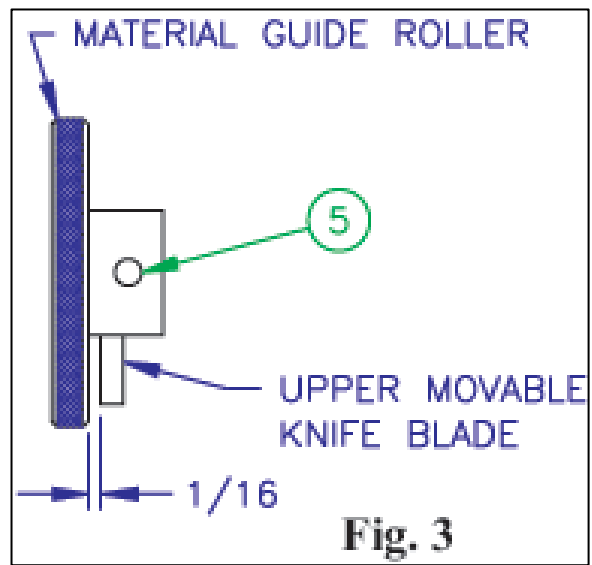

Fig. 3
3. The material guide roller should be adjusted along the drive shaft to leave 1/16" clearance between the roller and the upper movable knife blade. This is accomplished by loosening the set screws (5) (Fig. 3) in the material guide roller and moving the roller along the shaft until the desired 1/16" clearance is reached. Tighten the set screws.